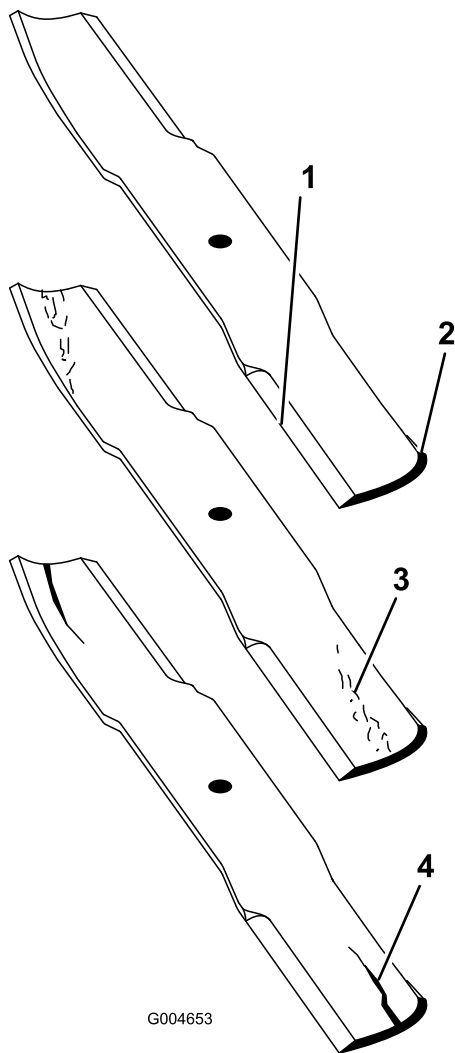

Figure 68
1. Inspect the cutting edges (Figure 68). If the edges are not sharp or have nicks, remove and sharpen the blades. Refer to Sharpening the Blades.
2. Inspect the blades, especially the curved area (Figure 68). If you notice any damage, wear, or a slot forming in this area (Figure 68), immediately install a new blade.